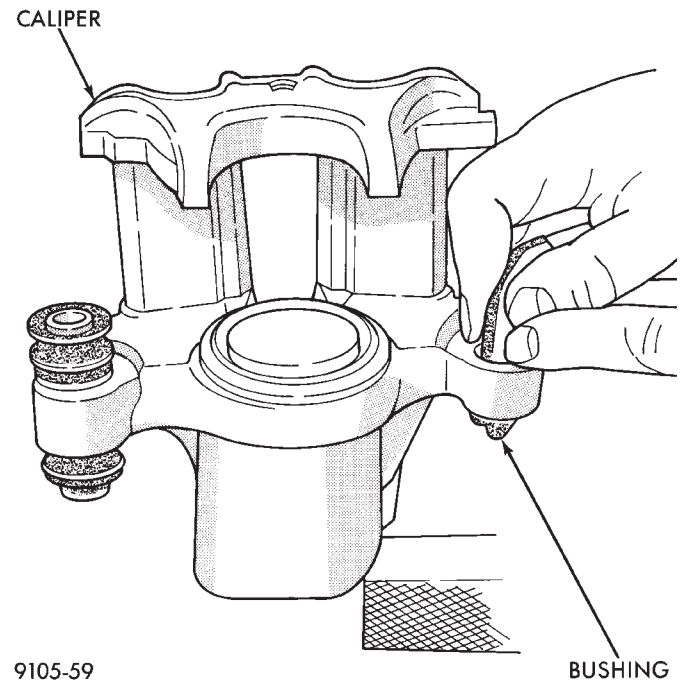

Fig. 5 Installing Caliper Guide Pin Sleeve Bushings
(2) Using your fingers insert the folded bushing into the caliper assembly (Fig. 5). **Do not use a sharp object to perform this step do to possible damage to the bushing.**
(3) Unfold the bushing using your fingers or a wooden dowel until the bushing is fully seated into